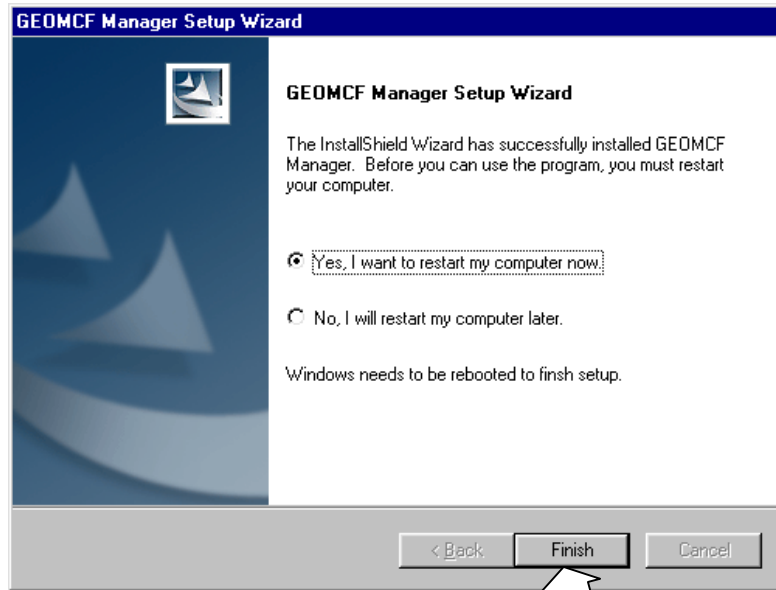

Figure 1-17
15. The **GEOMCF Manager Setup Wizard** “Restart” window (figure 1-17) is displayed. Select the radio button desired for rebooting and click on **Finish** (normally, the computer should be restarted now, if installation is finished).